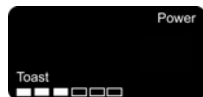

Fig. 10
3. Press on the "Toast" button. (Fig. 10)